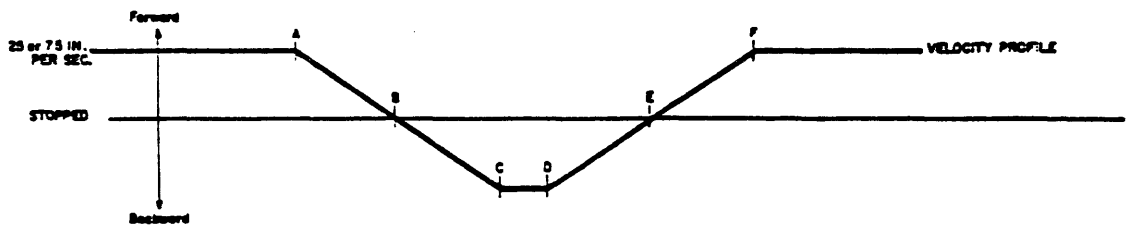
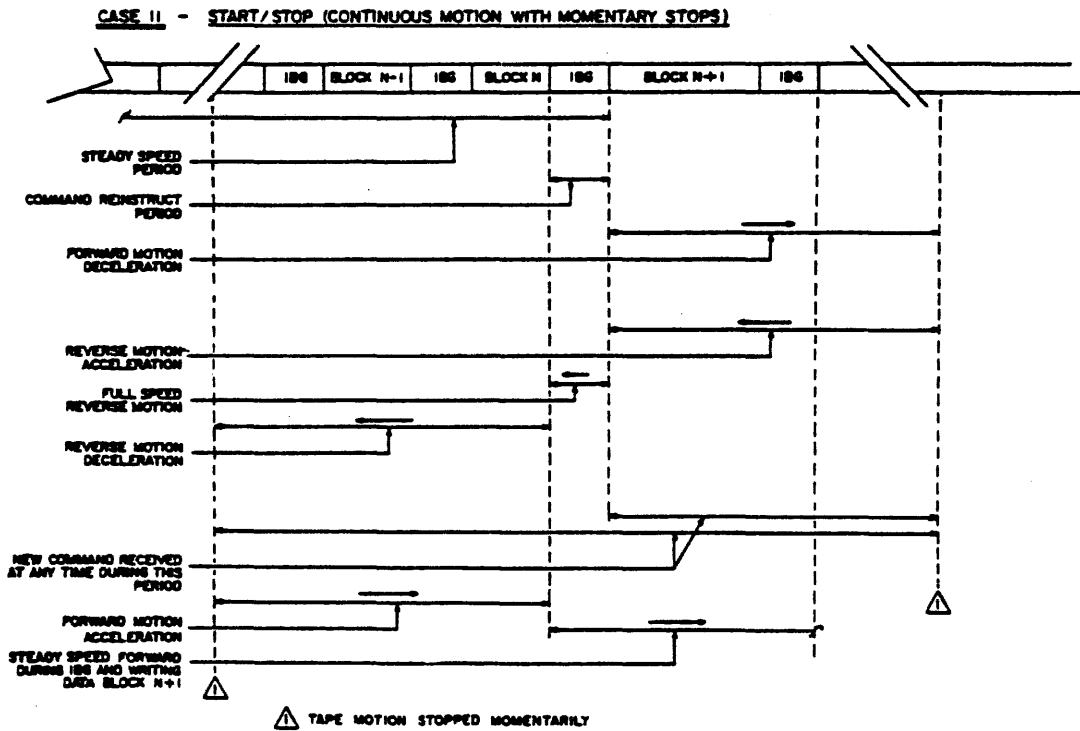

Figure 4-40. VELOCITY PROFILE - Case 2
Figure 4-41. TAPE MOTION CONTROL - Case 2
4.11.3.2 Case 2 (Momentary Stop) - Command Received During Repositioning Cycle. A command is not received during the Command Restruct period, but rather is received during the Repositioning Cycle. The diagram illustrates, in the distance domain, the sequence of events with respect to the transport motion and the command transfer (see Figure 4-40).
The velocity profile (Figure 4-40) illustrates, in the time domain, tape velocity characteristics. Looking at the diagram of Figure 4-41, it can be seen that the tape stops only momentarily to change direction. The velocity profile identifies the time sequence of events. The correspondence between the time and distance portrayals in sequence is as follows: